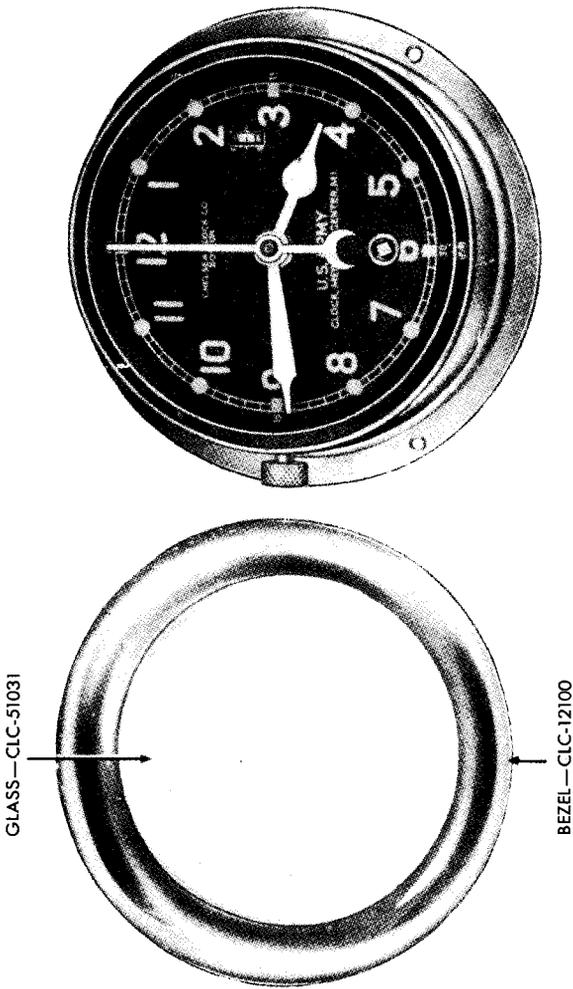

Figure 203 — Message Center Clock M1 — Bezel Removed
b. **Remove Bezel.** Remove bezel by unscrewing it counterclockwise (fig. 203).
v. **Replace Bezel** (fig. 203). Screw the bezel into place clockwise, making sure the glass does not touch sweep seconds hand or fourth wheel pinion.